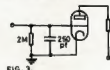

FIG. 3.
1. Reduce grid load resistor to 2 or 3 megohms and bypass with a 250 pF. condenser. (See Fig. 3.)